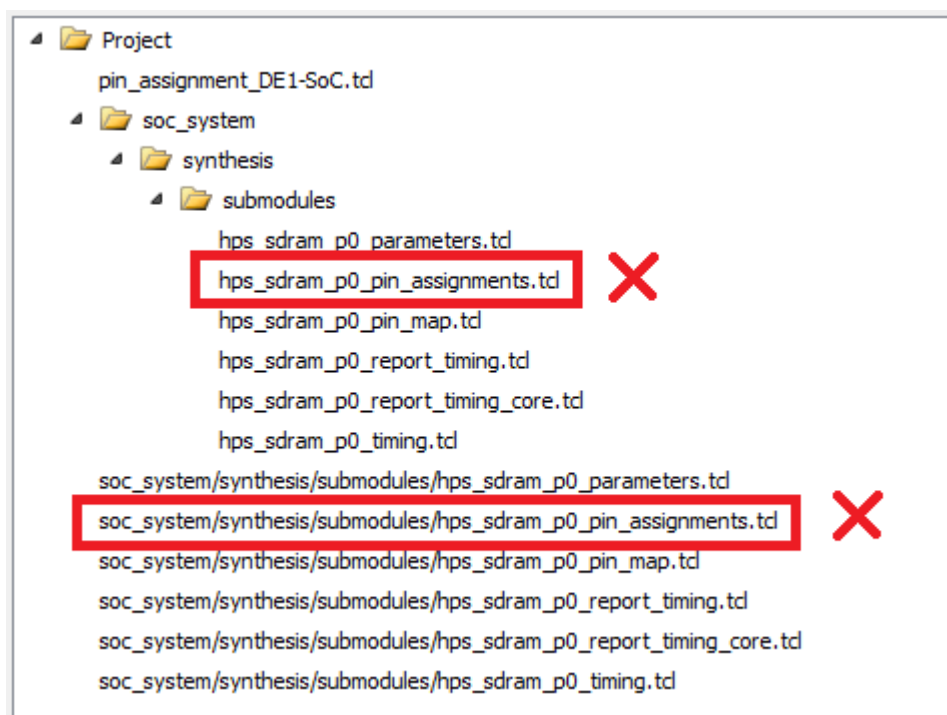

Figure 8-13. HPS DDR3 Pin Assignment TCL Script Selection Bug
**IF AT THIS POINT YOU SEE THE SAME THING AS ON Figure 8-13 IN QUARTUS II, THEN CLOSE AND RELAUNCH QUARTUS II AGAIN. SOME VERSIONS OF QUARTUS II SUFFER FROM A BUG, WHERE THE**